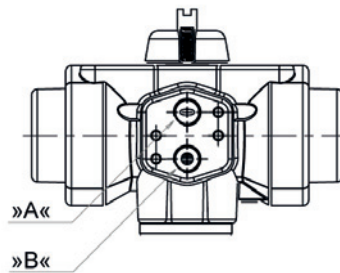

Fig. 8 Connect pneumatics
► Connect compressed air lines to the pneumatic drive (→ Fig. 8 Connect pneumatics, Page 8).